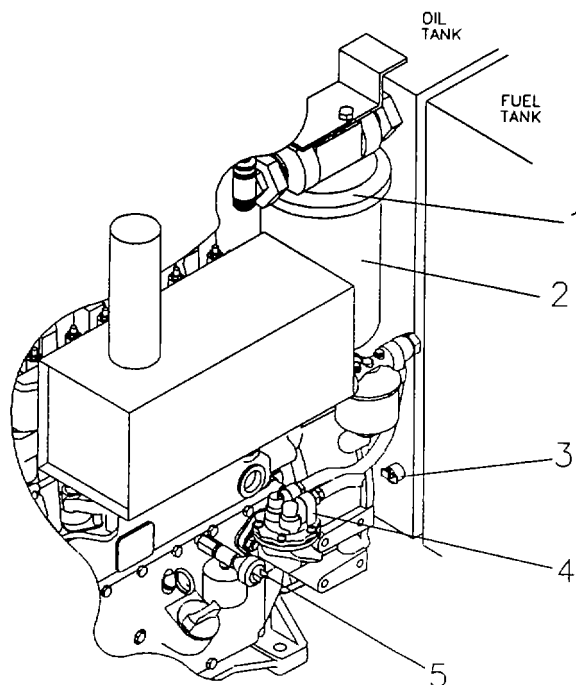

Figure 1-3. Major Components. Continued.
1.11.2 Figure 1-3 indicates the location of the following major components found on the power supply: